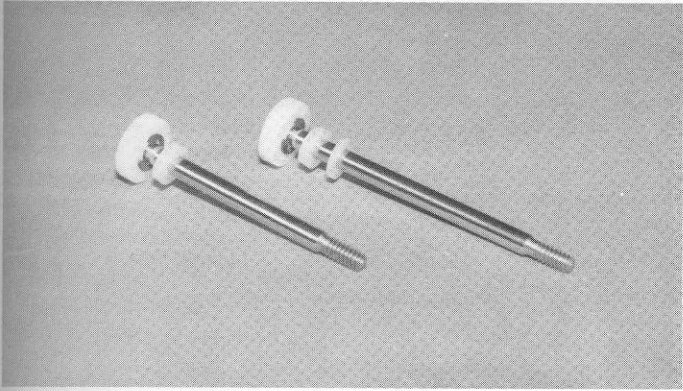

**Fig. 119**
□ **Fig. 119** (1) Take one of the shock bodies and the shock tool, with the internal parts on it, and slowly insert the tool into the shock body until it bottoms out. If everything goes in smoothly, the tip of the shock tool will be even with or just slightly out of the bottom of the shock body. If it isn't, you may need to rotate the shock body to help it seat the parts the rest of the way into the shock cavity. (2) Now stand the shock tool on your workbench, with the shock body on top, and firmly push down on the shock body until you hear and feel the split washer snap into its groove. You may have to push hard before it will go in. (3) When properly installed, the end of the shock tool should be sticking out the bottom of the shock about 1/8". (4) Once the parts have been properly snapped into place, pull the tool out. (5) Look inside the shock body for any obvious signs that the parts did not go together correctly. **MAKE SURE THE WASHER IS FULLY SEATED IN ITS GROOVE.** If the parts are not seated correctly, the shock will leak or even come apart internally. (6) Go ahead and repeat the same steps for the other three shock bodies.